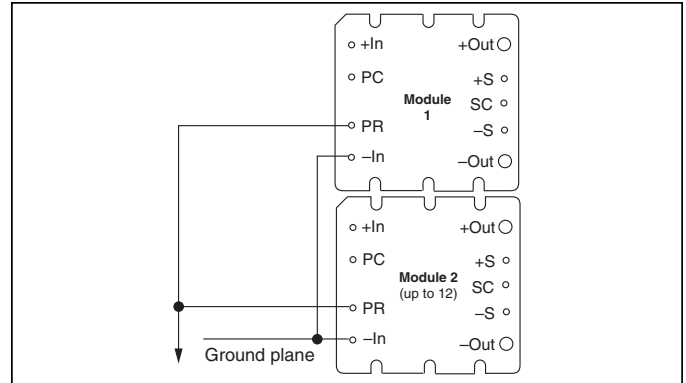

Figure 9 — DC coupled single-wire interface.
**DC coupled single-wire interface.** All PR pins are directly connected to one another. This interface supports current sharing but is not fault tolerant. Negative In pins must be tied to the same electric potential. Up to three converters may be paralleled by this method. See Figure 9.